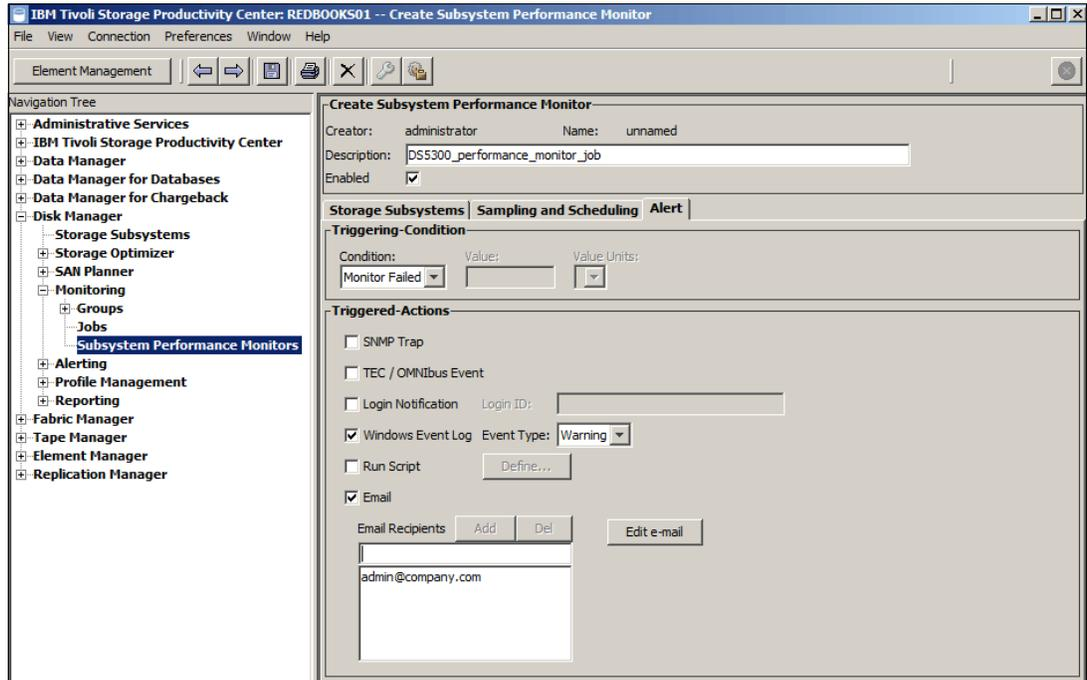

Figure 9-33 Alert tab
- Go to the **Alert** tab to select what actions must be triggered if the monitor fails, as shown in Figure 9-33.